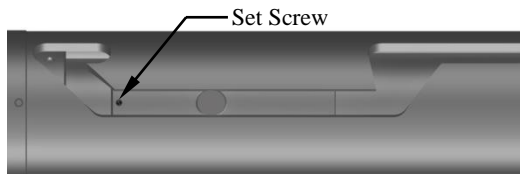

Fig. 6
L-2.17) Screw set screws (6) into J-pin bottom sub (23). Move J-body (20) as needed (Fig. 6).